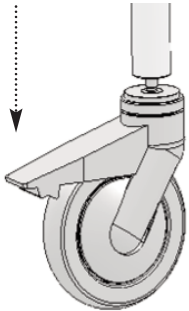

Figure 18
**B Caster Wheels:** When transferring into the chair, out of the chair and sliding the user from the roll-in section into the tub section, all four castor wheels should be securely locked in place. Failure to do so could cause the chair to become unstable (Refer to Figure 18).